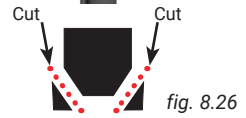

fig. 8.26
- 3- Cut **slight** beveled edges lengthwise on the replacement rubber (see fig. 8.26) so that it fits snugly against the welding tracks at the bottom of the pocket.